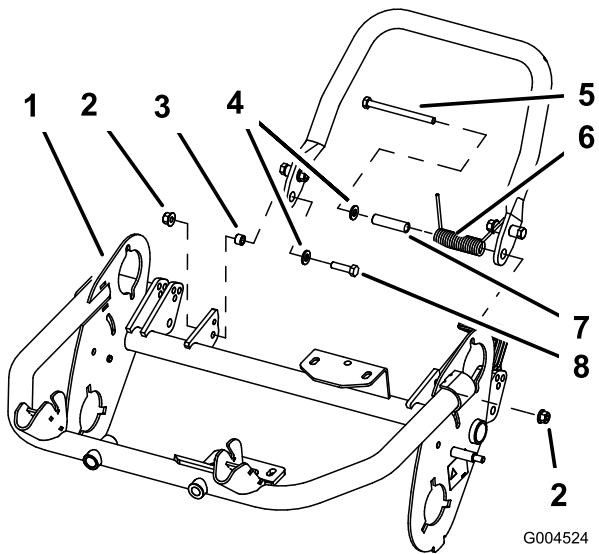

Figure 6
2. Install a washer (M8) onto the small bolt (M8-1.25 x 030). Install the right side of the kickstand to the frame with the bolt and washer, the small spacer, and locknut (M8-1.25) (Figure 6). Ensure the bolt is installed from the inside of the frame as shown in Figure 6.
- Important: When installing the spring, place one end of the spring under the rear frame (Figure 6).**
5. Install the left side of the kickstand to the frame with the bolt and washer, the large spacer and spring, and locknut (M8-1.25) (Figure 6). Ensure the bolt is installed from the inside of the frame as shown in Figure 6.